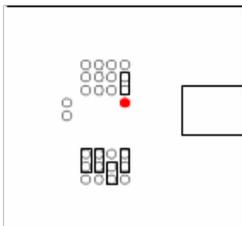

Figure 8: LED D8
- The pairing process was successful if the LED D8 is permanent on (see Figure 8)